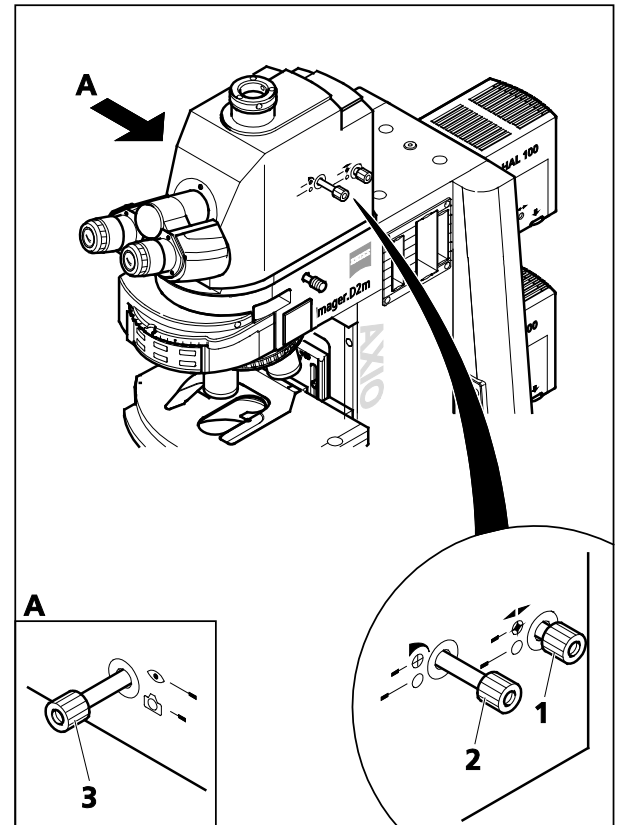

Fig. 203 Axio Imager 2 with mounted phototube Pol
- Set up the microscope as for transmitted-light polarization (refer to Section 4.12.5.1 (3)).
- Switch phototube Pol to visual observation, if necessary. To do so, pull out the push-pull rod on the left side (Fig. 203/3).
- On phototube Pol, push in the front push-pull rod (Fig. 203/2) on the right side to move the reticle into the light path.
- Turn the front push-pull rod (Fig. 203/2) to close the luminous-field stop until only the selected specimen feature remains visible. This is to prevent the axial figure of the crystal being examined from being overlapped by the axial figures of adjacent crystals. This allows crystals from 10 μm diameter to be viewed in conoscopic illumination.
- Move the Bertrand lens on the phototube Pol into the light path. To do so, push in the rear push-pull rod (Fig. 203/1) on the right side. The axial figure then appears in the field of view. To focus the axial figure, turn the rear push-pull rod.